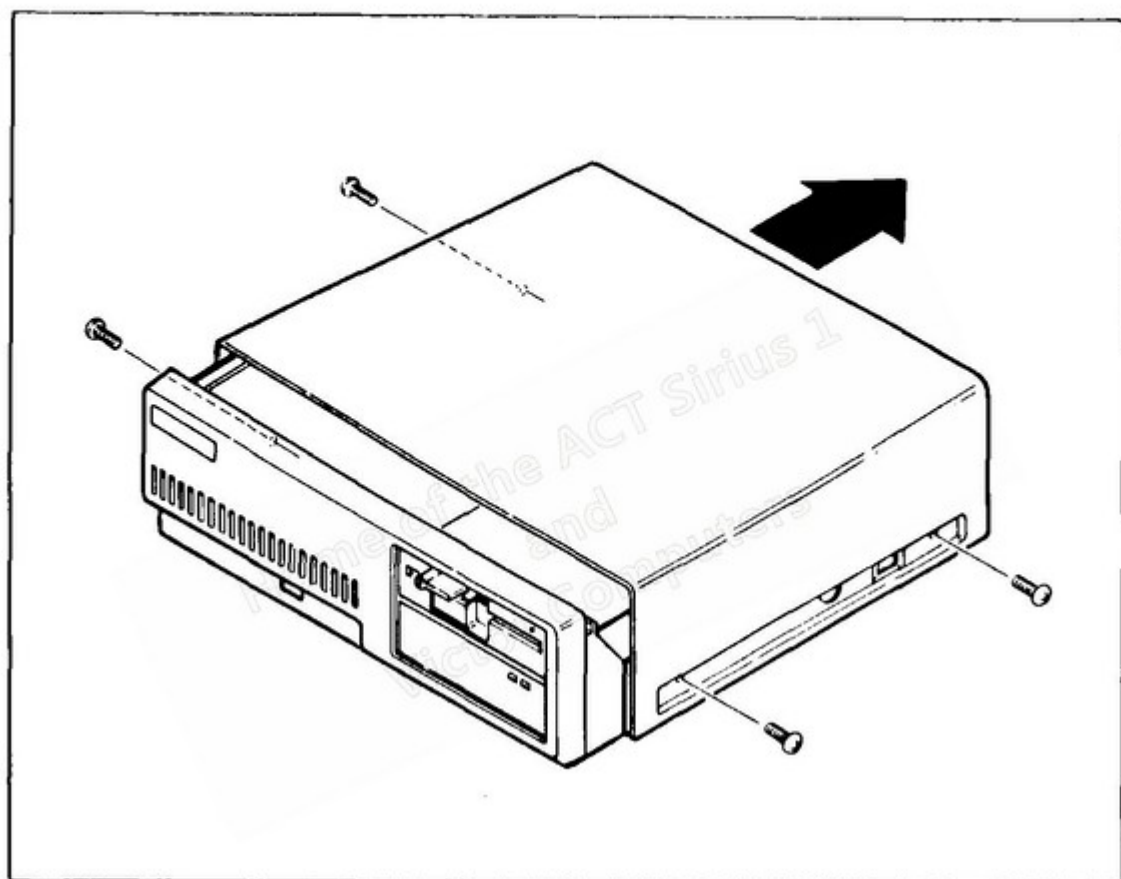

Figure A-1: Removing the Cover from the System Unit
4. Remove the four cover screws from the sides of the system unit, as shown in Figure A-1.
5. Slide the cover toward the rear of the system unit, as shown in Figure A-1, and then lift and remove it.